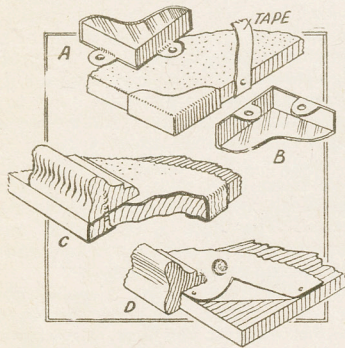

Fig. 1—Details of corners and types of edging
In the fourth method the moulding is solid and not worked with a rebate. The board is covered with the baize, the edges being also covered with the baize and "brought underneath the board and tacked from the back, see Fig. 1 (C). This gives a very simple and strong board, but as the moulding is a little deep, it may not be suitable for all cases. It certainly stiffens the main backing board, which, if of rather large measurements, is of a de-
of green baize, cut 1in. larger all round than the board itself and nailed at the back with small tacks. The corners of the baize should be cut across, lapped and nailed and four nickel-plated mirror clips screwed to the back, as Fig. 1.